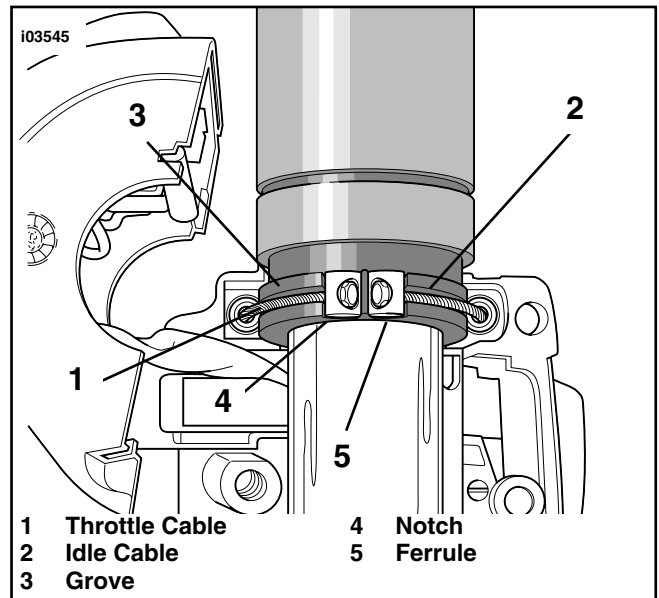

Figure 5. Remove Throttle and Idle Control Cables
15. See Figure 5. Remove the brass ferrules from the notches on the inboard side of the throttle control grip, then remove ferrules from the cable end fittings. Save ferrules for re-installation.
24. Refer to Figure 5. Position the lower switch housing beneath the throttle control grip. Install the brass ferrules onto the cables so that the end fittings seat in the ferrule recess. Seat the ferrules in their respective notches on the throttle control grip. Verify that the cables are captured in the grooves molded into the grip.